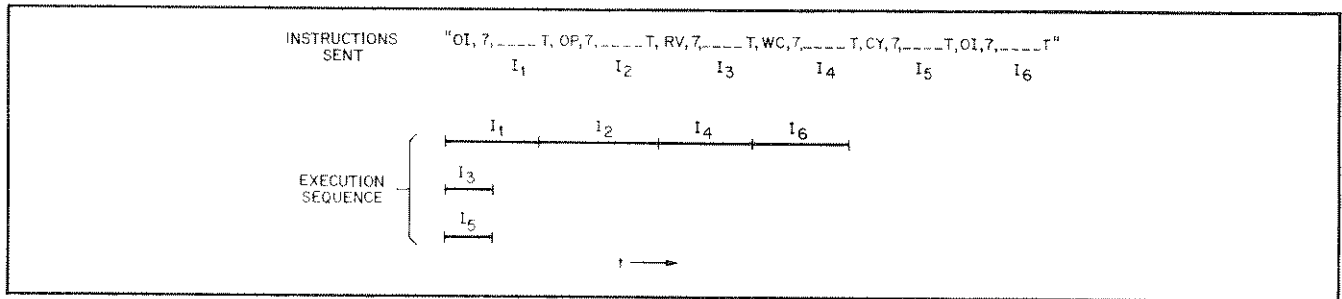

Figure 5-8. Same Card Restrictions in Parallel Mode
2. Only one instruction can be active for any one card at the same time. Multiple instructions (like or unlike) that address the same card will run in sequence. The following instructions are affected by this restriction; IE, II, IP, OB, OI, OP, OS, and WC. Note that, even though two or more OI (or II) instructions can be executed in parallel, the same card restriction applies since one card cannot be busy in two or more OI (or II) instructions at the same time. Figure 5-8 illustrates how four instructions affected by this restriction (I_1 , I_2 , I_4 , and I_6) and two that are not (I_3 and I_5) are executed in the parallel mode. In the example six instructions are addressing card 7.